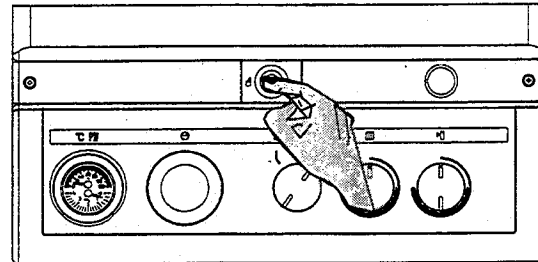

Fig. 3
1.2 Should the boiler fail to ignite and the lockout reset button (2) illuminates, press the button once (Fig. 3) - the appliance will reattempt ignition. Should the appliance continue to lockout the appliance must be checked by a competent person.
2.2 Should the boiler fail to ignite and the lockout reset button (2) illuminates, press the button once (Fig. 3) - the appliance will reattempt ignition. Should the appliance continue to lockout the appliance must be checked by a competent person.